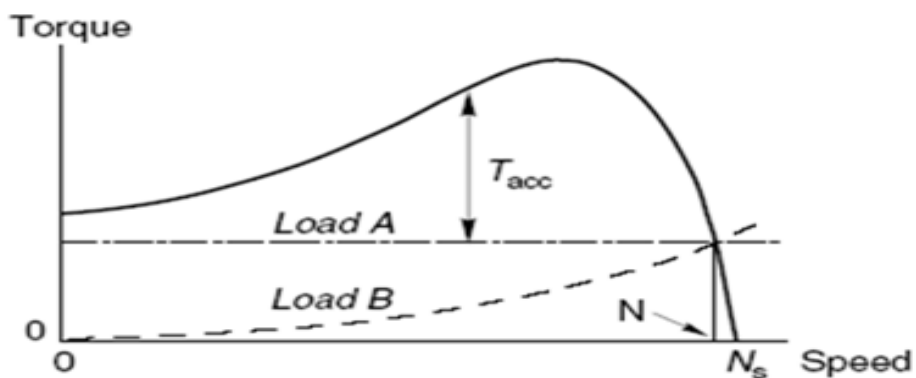

Figure 4 Typical Torque Speed Curve with Two Different Loads
The Full-load torque is the torque required to produce the rated power of the electrical motor at full-load speed. Figure 4 shows a typical torque–speed curve showing two different loads which have the same steady running speed (N). The solid line is the torque–speed curve of the motor, while the dotted lines represent two different load characteristics. Load (A) is typical of a simple hoist, which applies constant torque to the motor at all speeds, while load (B) might represent a fan.  $T_{acc}$  represent the accelerating torque, which is the difference between the torque developed by the motor and the torque required to run the load at that speed.